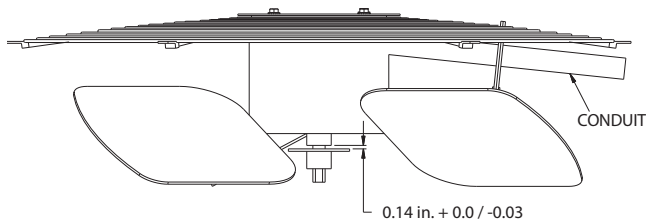

Fig. 9 — Condenser Fan Adjustment
See Fig. 9.
4. Adjust fan height as shown in Fig. 9.